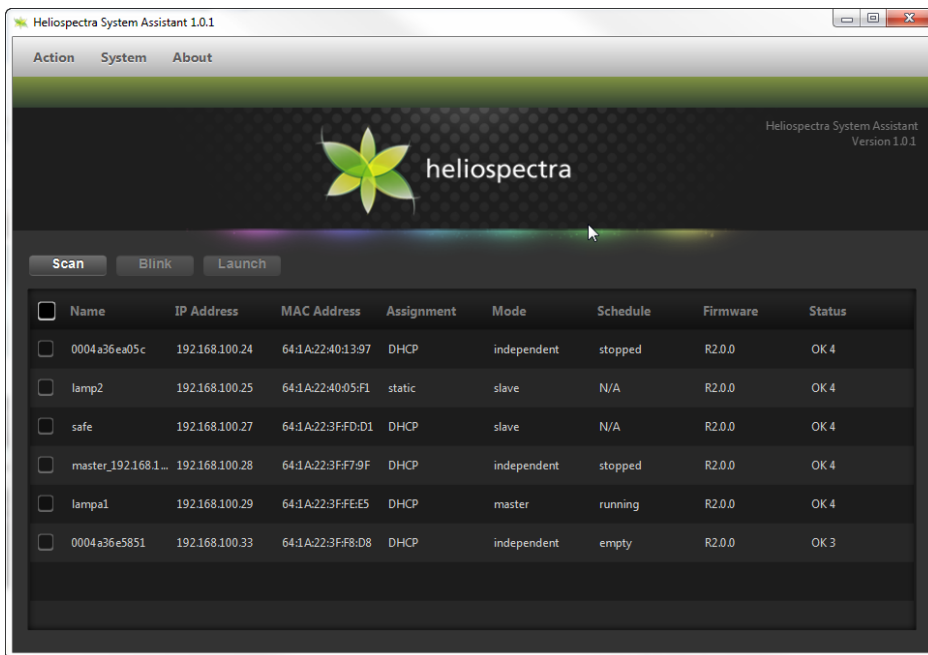

Figure 6 Heliospectra System Assistant Main Window
Figure 6 Heliospectra System Assistant Main Window provides an overview of the main window of the Heliospectra System Assistant. The main window contains the following general functions and information:
2. Click **Scan**; see *Figure 6 Heliospectra System Assistant Main Window*. A list of available lamps on the network is shown.